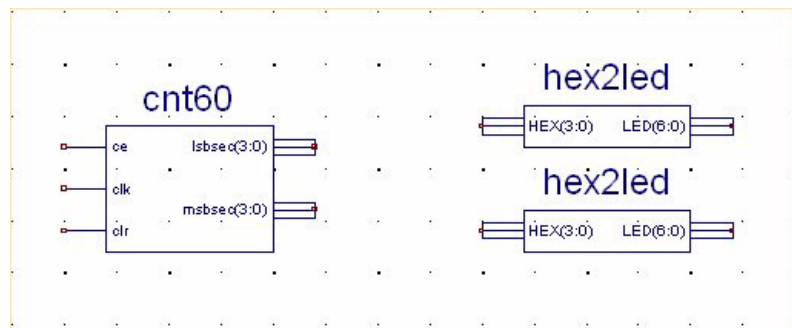

Figure 2-28 Placing the HEX2LED Component
3. Select HEX2LED, and add it to the Watch schematic, as shown in Figure 2-28.